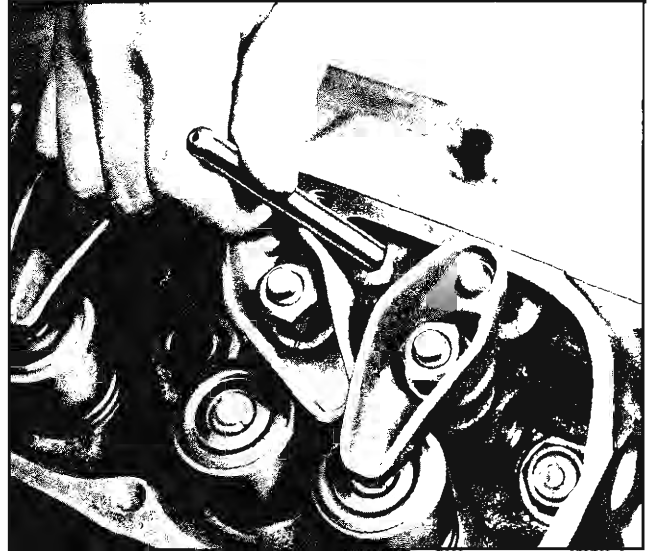

Fig. 6-19 Removing Push Rod
2. Loosen rocker arm nuts and rotate rocker arms to allow removal of push rods (Fig. 6-19).